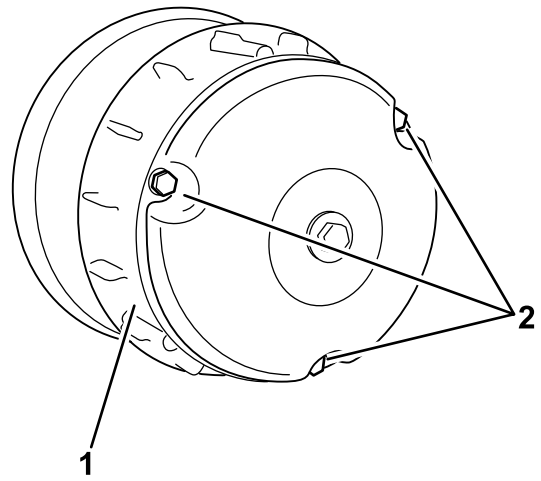

Figure 62
2. Remove the 3 bolts securing the cover to the clutch, and remove the cover (Figure 62).
4. Install the clutch cover and secure it with the 3 bolts (Figure 62) that you removed in 2.